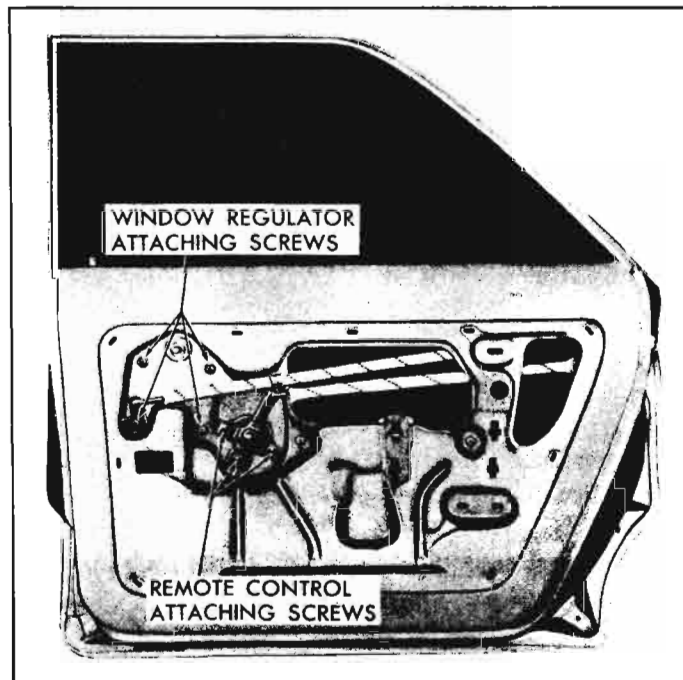

Fig. 10-65—Rear Door Window Regulator Attachment
5. Remove regulator attaching screws (see fig. 10-65). Then work regulator rearward to disengage arms from window lower sash channel cam and remove regulator through large access hole.
1. Raise door window. Remove door trim assembly and detach inner panel water deflector sufficiently to gain access to remote control attaching screws (see fig. 10-65).